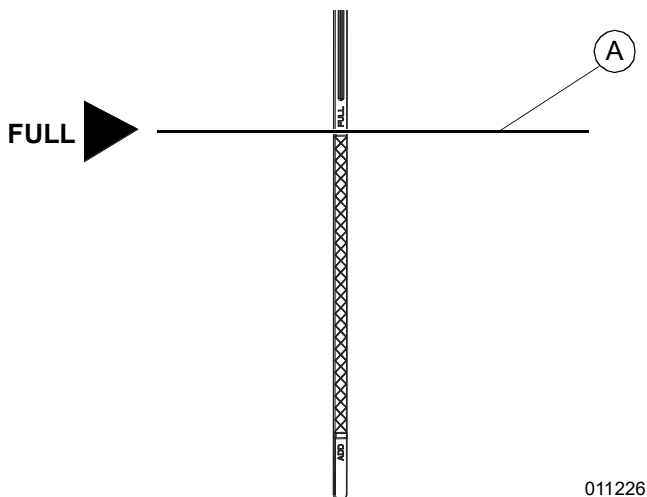

Figure 5-8. Oil Level Dipstick Full Mark
7. See Figure 5-8. Verify oil level is at or near FULL mark (A). Add oil as necessary.